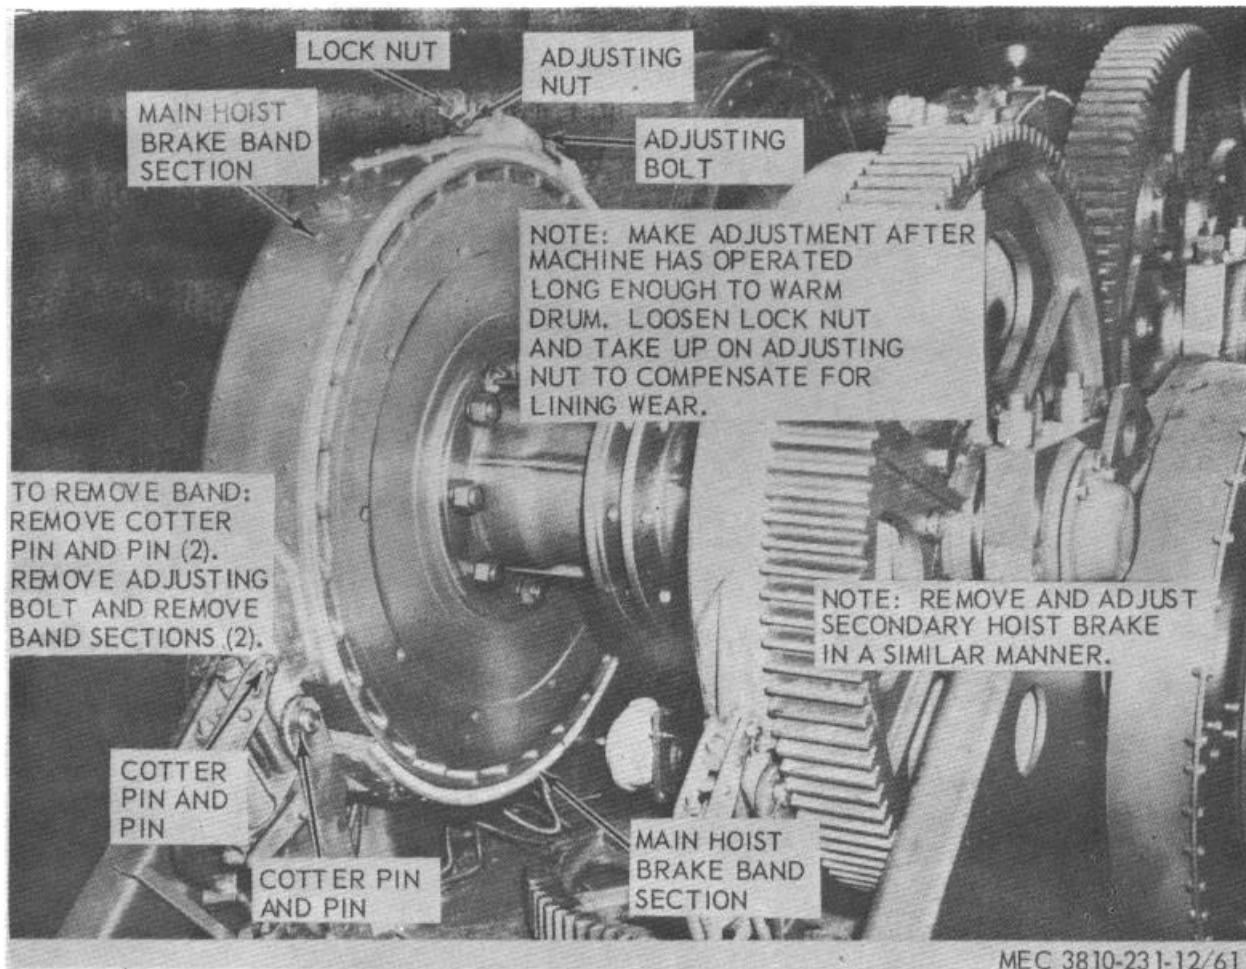

Figure 61. Main hoist brake and Secondary hoist brake adjustment, removal and installation.
a. *Adjustment.* Adjustment may be made to the hoist brake bands to compensate for wear as shown in figure 61.
b. *Removal.* Remove the brake band as shown in figure 61.
- (1) Clean all parts in an approved cleaning solvent and dry thoroughly.
- (2) Inspect the lining for excessive wear, glazing and other damage. Replace a brake band having defective lining.
d. *Installation.* Install the brake band as illustrated on figure 61.